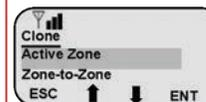

Figure 2
4. Select the type of clone to be performed by the Master radio. (See Figure 2)
4A. Active Zone: (See Figure 2)